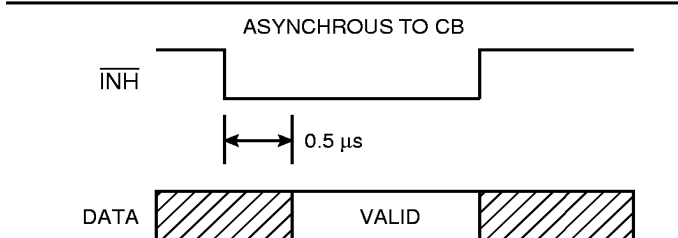

FIGURE 9. INHIBIT TIMING DIAGRAM
When an Inhibit ($\overline{\text{INH}}$) input is applied to the SD-14595/96/97, the Output Transparent Latch is locked causing the output data bits to remain stable while data is being transferred (see FIGURE 9). The output data bits are stable 0.5 μs after $\overline{\text{INH}}$ goes to logic 0.
An $\overline{\text{INH}}$ input, regardless of its duration, does not affect the converter update. A simple method of interfacing to a computer asynchronous to CB is: (1) Apply $\overline{\text{INH}}$; (2) Wait 0.5 μs min; (3) Transfer the data; (4) Release $\overline{\text{INH}}$ (see FIGURE 9).